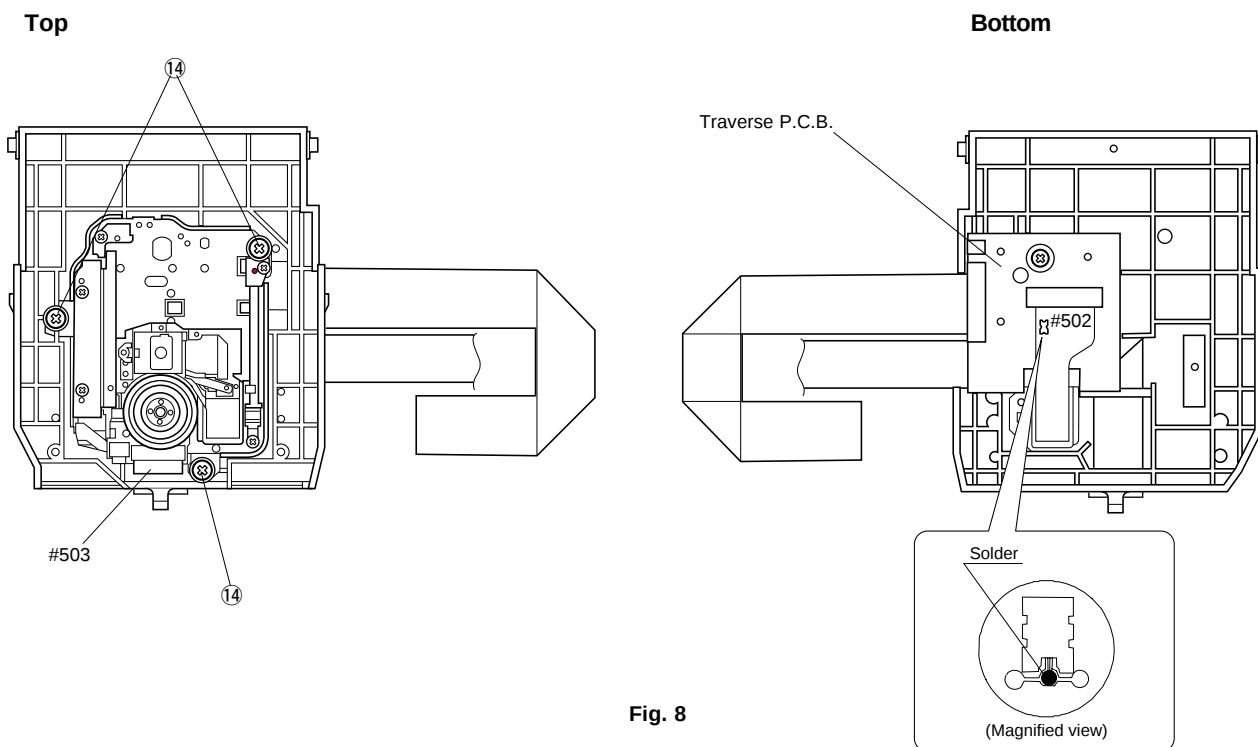

Fig. 8
- Remove 3 screws (⑭) in Fig. 8.